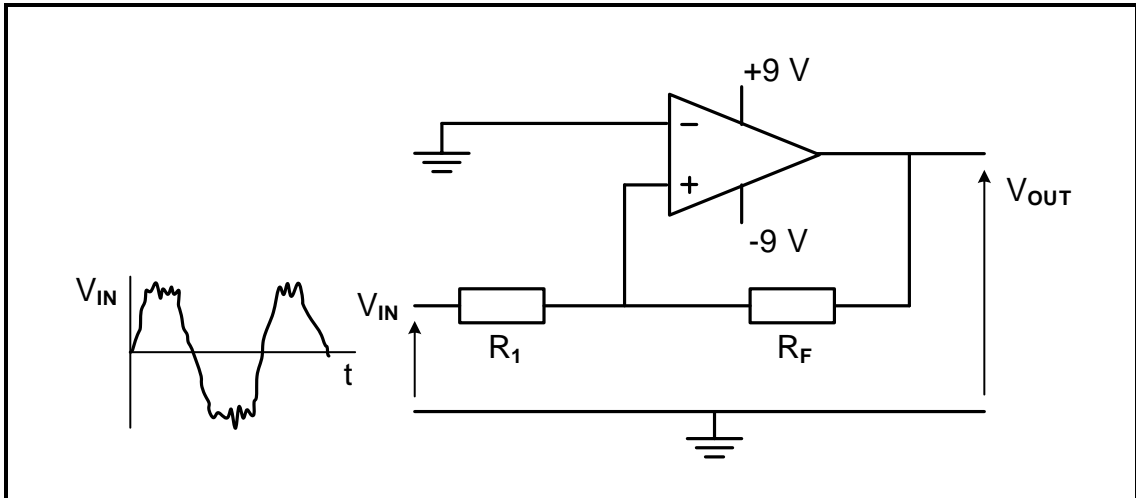

FIGURE 2.4: NON-INVERTING SCHMITT TRIGGER
2.4 FIGURE 2.4 below shows the circuit diagram of a non-inverting Schmitt trigger. Answer the questions that follow.